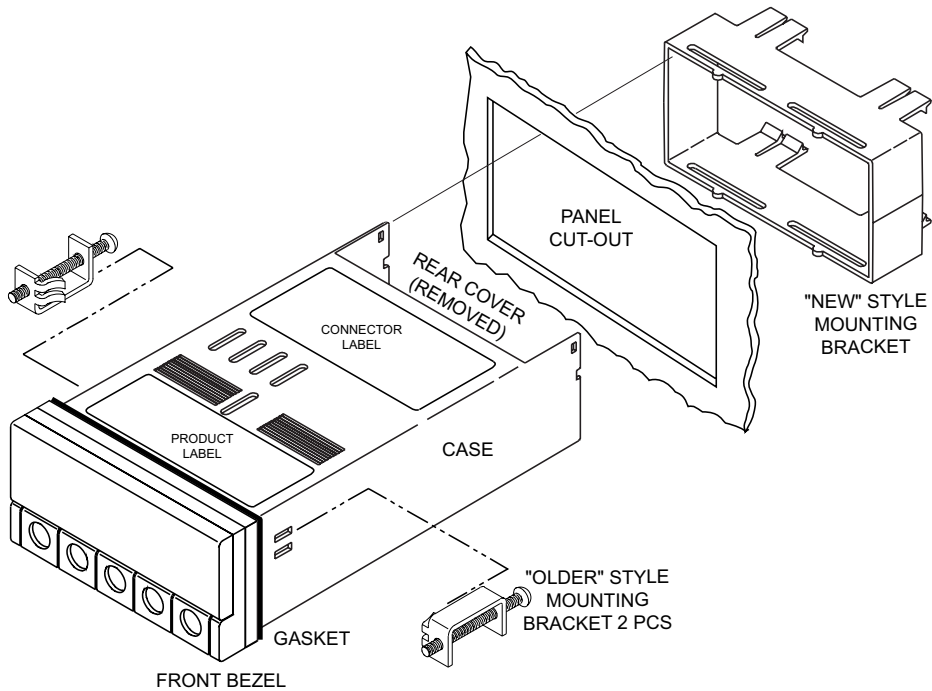
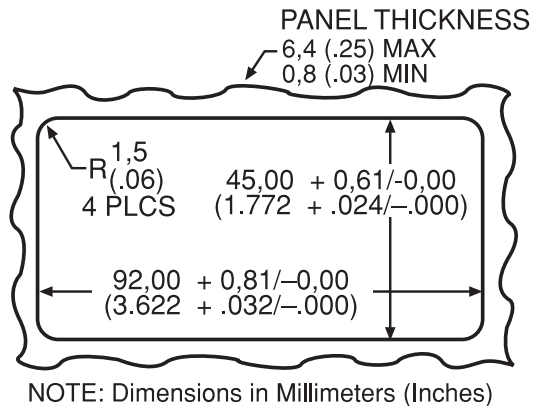

Figure 3-3 Meter - Exploded View
Figure 3-4 Panel Cut-Out
1. Cut a hole in your panel, as shown in Figure 3-3. For specific dimensions refer to Figure 3-4.